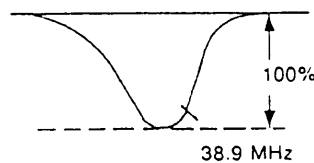

Figure 5.
6. Rotate and spread the tabs of the purity magnet (See figure 5) around the neck of the picture tube until a green belt is obtained in the centre of the screen. And at the same time, centre the raster vertically by adjusting the magnet.